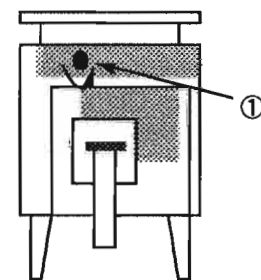

Fig 7
2. Remove the spring hooked on the cassette holder (Fig 7).